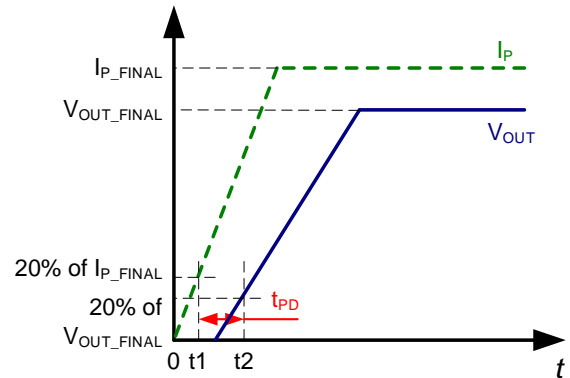

Figure 5: Propagation Delay ( $t_{PD}$ )
2.  $t_2$ :  $V_{OUT}$  reaches 20% of its final value, as it corresponds to the applied  $I_P$  (see Figure 5).